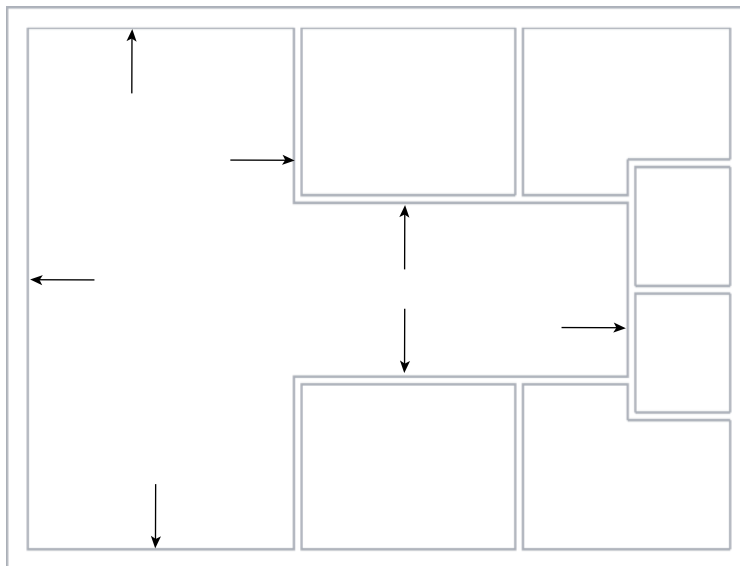

Figure 3.101
10. Using Figure 3.101 as a reference, select the indicated walls. When using the Pick Walls tool, make sure that after you have picked the wall the magenta lines drawn are on the inside of the wall for which you are creating a ceiling. Use the flip arrows  as necessary to select the interior edges of the walls.